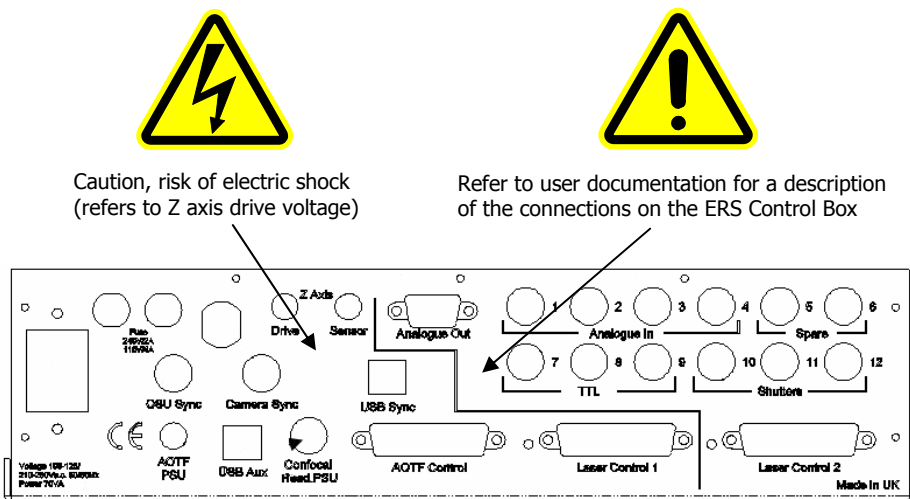

Figure 6 Labels on the ERS Control Box
- A mechanical shutter on the laser controls the emission of laser light through the optical fiber; see Figure 3 and Figure 6 on pages 26 and 29 respectively.